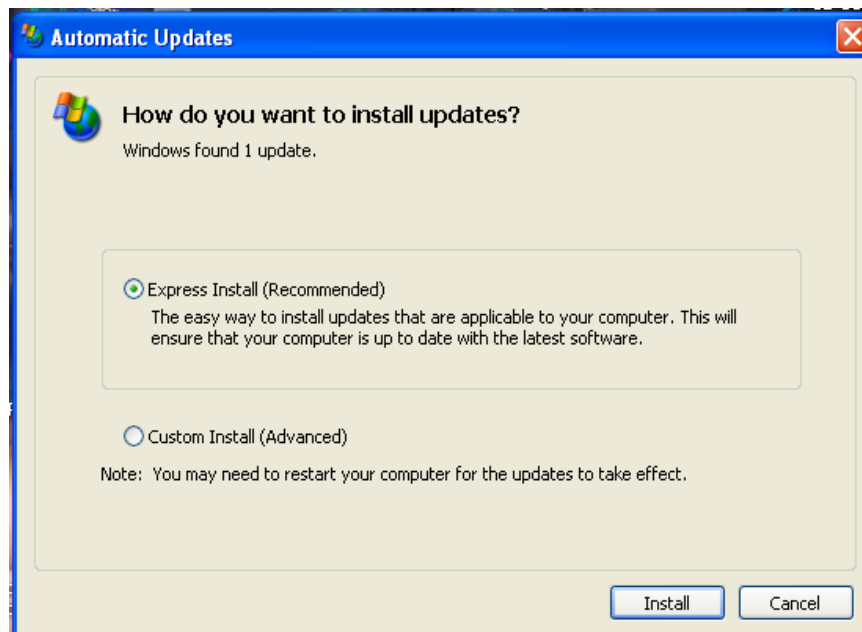

Figure A-7: Automatic Updates Screen
- b. Click on the yellow **Window Security Update Shield**. The *Automatic Updates* screen will appear (Figure A-7).